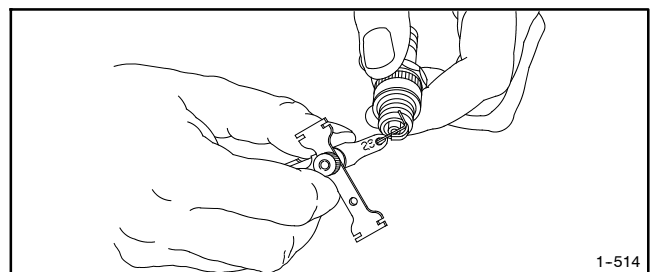

Figure 2-7 Checking the Spark Plug Gap
3. Check the spark plug gap using a wire feeler gauge. Adjust the gap to 0.76 mm (0.030 in.) by carefully bending the ground electrode. See Figure 2-7 and Figure 2-8.